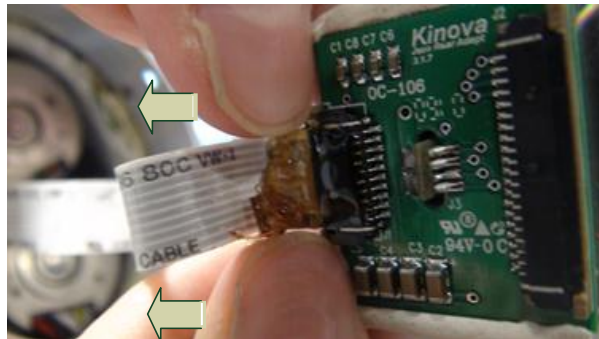

Figure 22 - Removal of cable connected to actuator #6
-  There is a cable located between each actuator and if you pull too hard, it might break the cable. (See Figure 22, p.25)